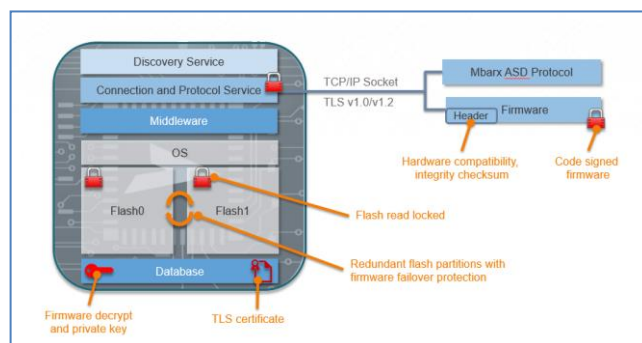

Figure 3 - Mbarx Security Architecture
- Figure 3 - Mbarx Security Architecture4